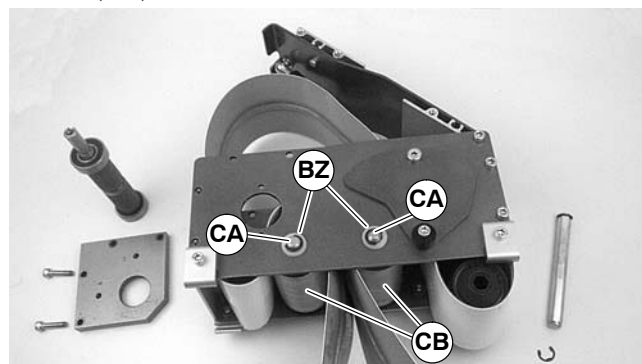

Figure 46
- For 2” (44 mm), 3” (70 mm) or 4” (95 mm) wide conveyor, detach E-ring clips and remove washers (BZ of Figure 46). Remove pulley shafts (CA) and pulleys (CB).